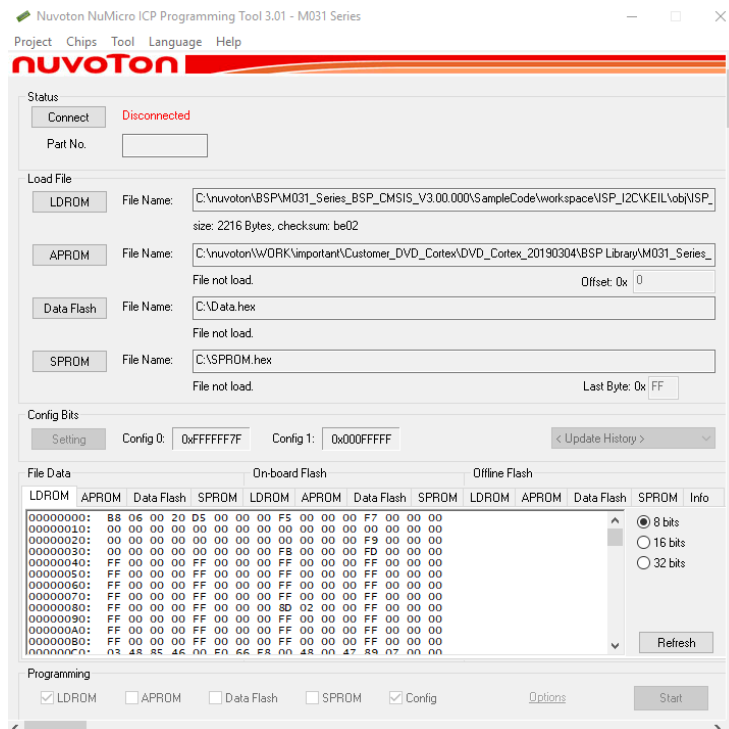

Figure 4-4 ICP Tool Main Window
Step 3: In the ICP Tool window, the connection status is shown as “Disconnected” since the ICP tool has not been connected with the Nu-Link Adapter, as shown in Figure 4-4.